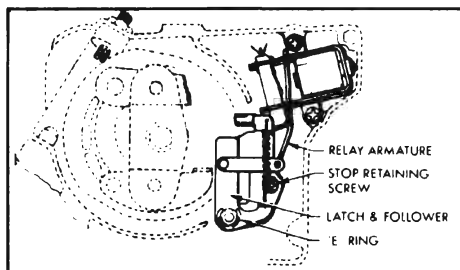

Figure 10-122—Disassembly of Relay and Latch
2. Disconnect coil spring, remove "E" ring and lift the latch and follower assembly off the pivot pin and relay armature. See Figure 10-122.